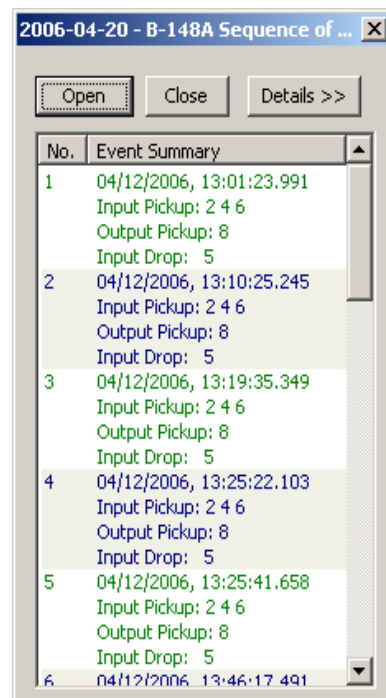

Figure 3-34 Sequence of Events Summary Screen
4. Select **Open**. ISScom will **Open** the target file in the Sequence of Events Viewer **Summary** screen (Figure 3-34).